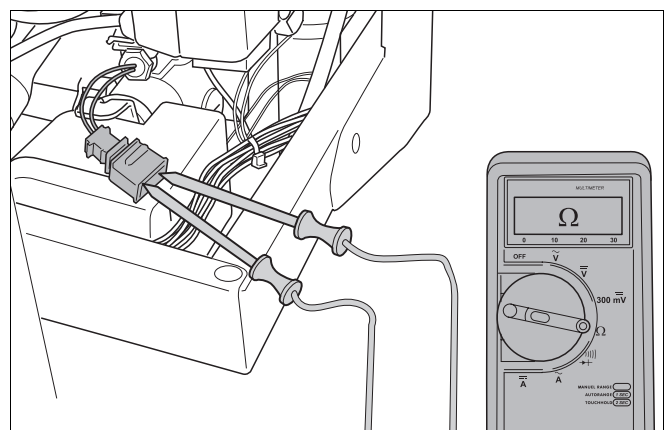

fig. 84 Measure resistance return sensor
- Measure the resistance of the return sensor (→ fig. 84).